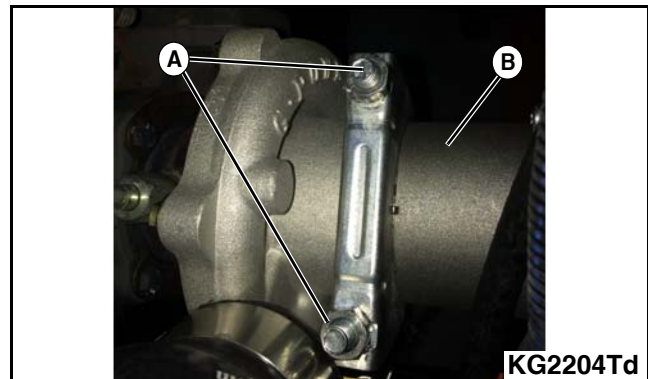

Figure 3-46
5. Remove the two nuts (A) on the clamp on the turbocharger compressor inlet adapter. Remove the clamp and disconnect the inlet adapter (B). **See Figure 3-46.**